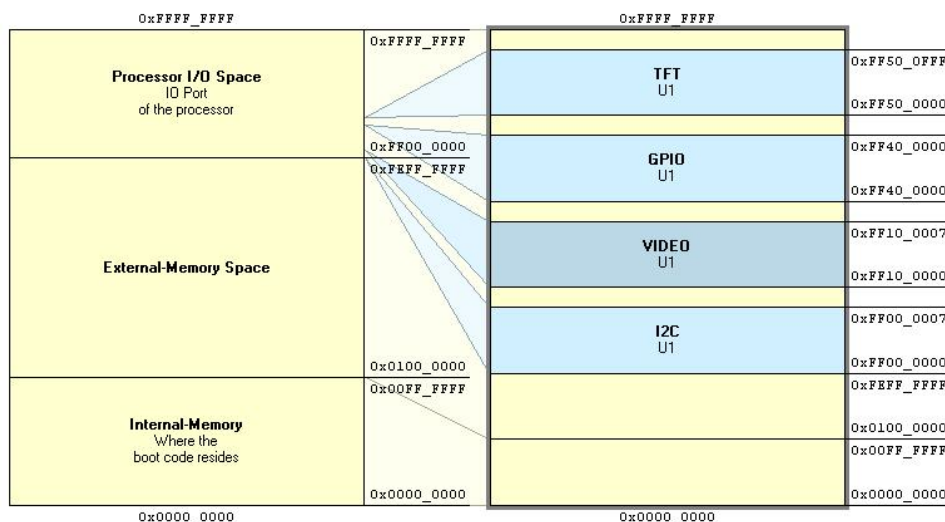

Figure 27. Processor peripherals properly configured for our application.
4. Select the option **Import** just beside U2 in the `Choose Wishbone Items` dialog. This will cause the status of all items to change to **Import**. Clicking OK will close the dialog and the memory listed in the `Configure Peripherals` dialog should now appear as it does in Figure 27.